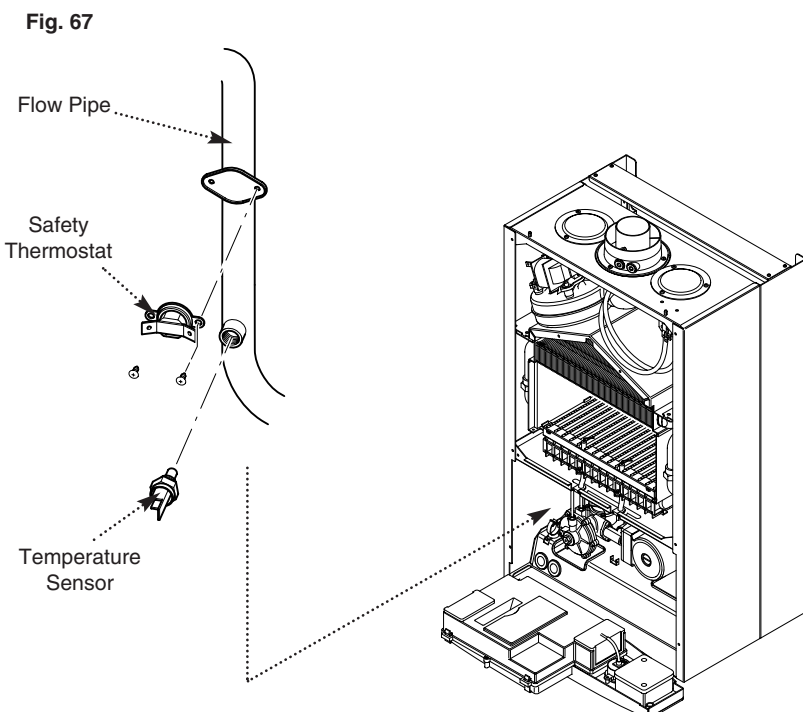

Fig. 67
12.9 Temperature Sensor (Fig. 67)
12.10 Safety Thermostat (Fig. 67)